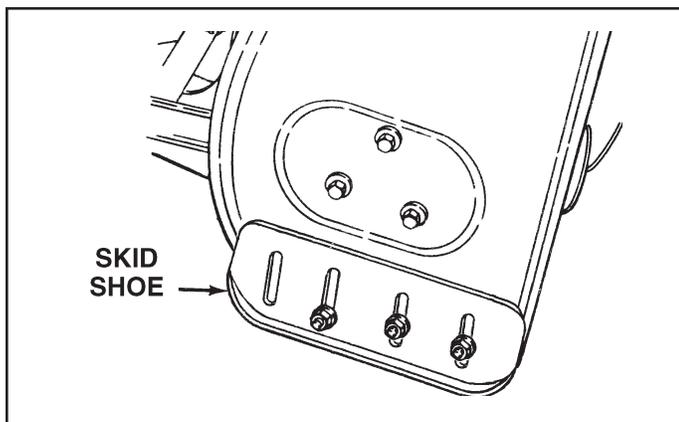

FIGURE 34
- (Refer to figures 34 and 35 on page 19.)**
2. Raise the snow thrower off the ground and place a block under each end of the scraper plate. Loosen the six hex nuts securing the skid shoes to the housing. Adjust the skid shoes up or down and retighten the nuts securely. Adjust both skid shoes to the same height to keep the housing and the scraper plate level. See figure 34.